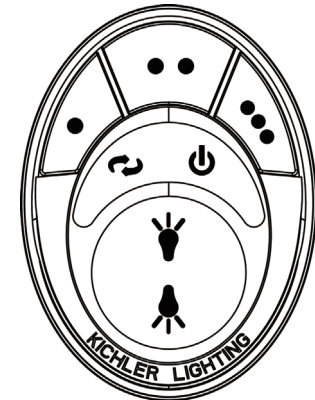

Fig. 31
**Step 5.** The buttons control the fan speed and light as follows: (Fig. 31)